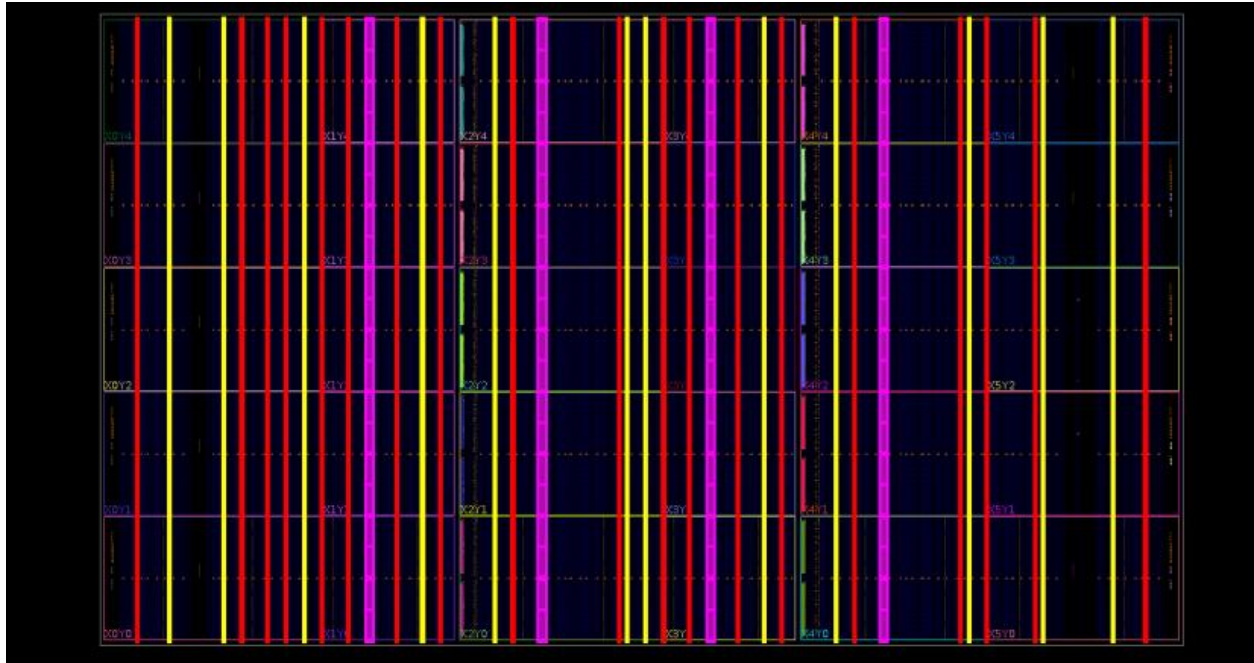

Figure 1: This figure depicts the xcvu3p color-coded macro columnar placement sites for URAM's (magenta), BRAM's (yellow) and DSP's (red).
- 6) design.scl: Extended from the original bookshelf format to represent xcvu3p device layout and permissible site locations for all placeable object types (please refer to Figure 1).